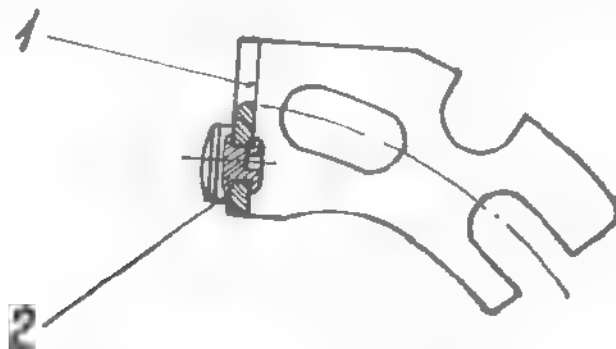

Fig. 4.29. FIXED CONTACT PLATE (ASSY)
- Remove fixed contact plate and adjust fixed contact (point) by means of a fine watchmaker's file, removing oxidized metal, giving to the contact a shape of spherical cap, symmetrical to its axis (see fig. 4.29).